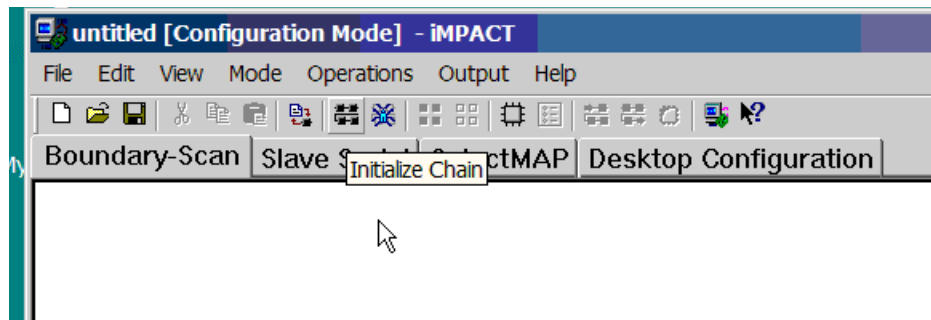

Figure B-11: Initializing the JTAG Chain
16. Select the Initialize Chain command shown in Figure B-11.